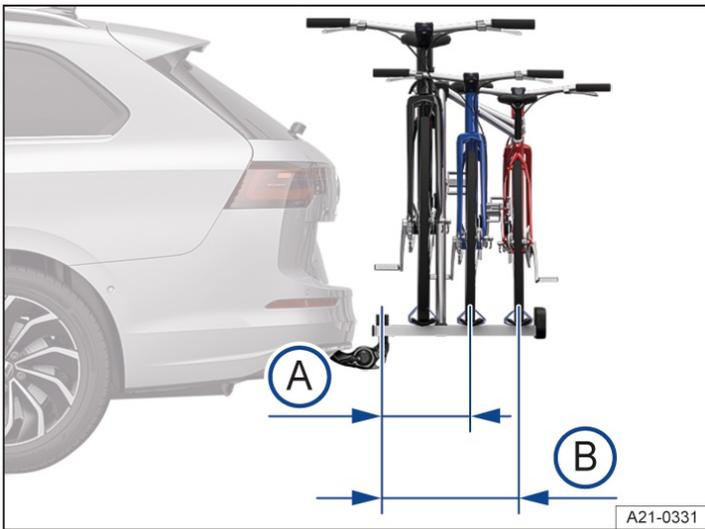

Fig. 2 General example of the maximum overhang on one bicycle rack for two or three bicycles.
- (A) For a carrying load up to 55 kg: 500 mm (approx. 19.7 inches).
- (B) For a carrying load of 75 kg: 700 mm (approx. 27.6 inches).
On bicycle rack systems with two bicycles, the maximum overhang must not exceed 500 mm from the center of the ball mount to the center of the bar on the last bicycle rack → fig. 2 (A). On bicycle rack systems with three bicycles, it must not exceed 700 mm → fig. 2 (B).